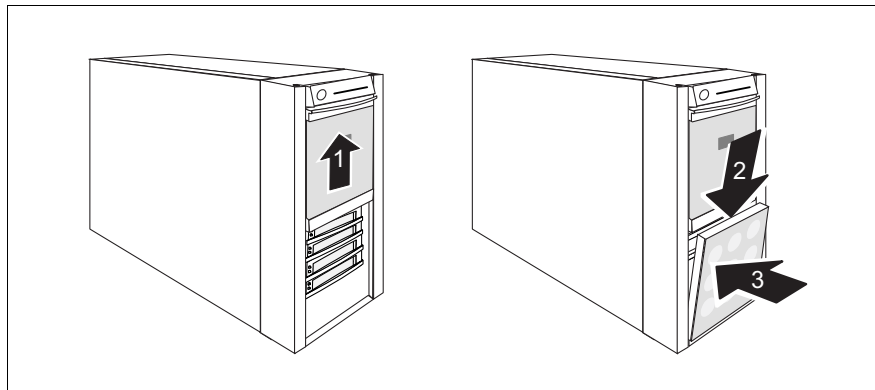

Figure 50: Attaching the hard disk cover
- ▶ Press the three hooks (1) on the right side in the recesses of the housing.
- ▶ Press the front cover onto the housing (2) until the three tabs on the left side engage (3).
- ▶ Attach the hard disk cover as shown in figure 50 on page 71.